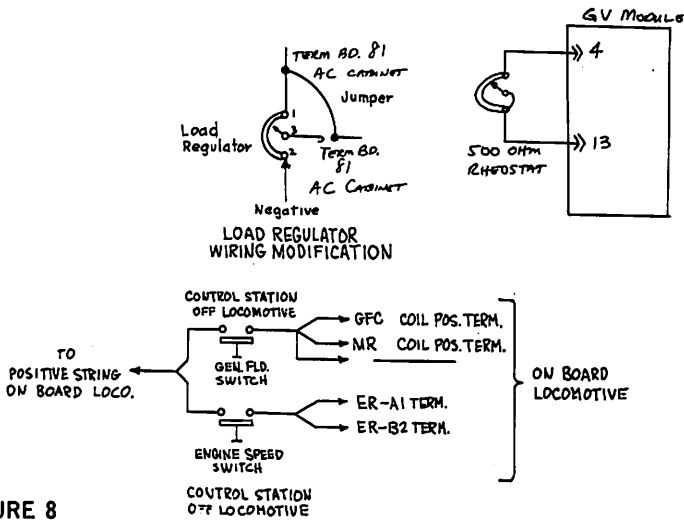

FIGURE 8
A. AR10 AC Voltage Regulation (Locomotives with GV modules)—to provide AR10 480 VAC voltage regulation for all locomotives equipped with a GV module a simple addition of a 500 ohm rheostat rated at 5 watts or greater, connected between terminal 4 and 13 on the GV module on board the locomotives will allow adjustment of the GV module to obtain 480 VAC. The 480 VAC can initially be set on the AR10 output at no load but should be readjusted after load application. To remove the load control system from the excitation control circuitry consult applicable locomotive wiring diagram and at the AC cabinet terminal board remove the wire going to No. 3 load regulator lead (EB wire). Add a No. 14 jumper wire from terminal board connection for the No. 1 load regulator lead (EA wire) and connect to the terminal board terminal on which the No. 3 lead was connected. Reference Figure 8.